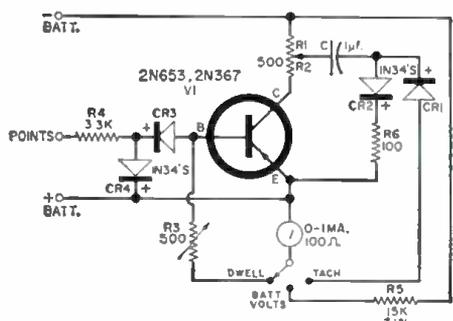

Fig. 5. Complete circuit diagram and parts values for the engine analyzer.
When the transistor conducts, the voltage at the junction of  $R_1$  and  $R_2$  drops (becomes less negative) and  $C$  discharges through  $V_1$ ,  $R_3$ ,  $R_6$ , and  $CR_2$ . The diodes in the input base circuit of the transistor ( $CR_1$  and  $CR_2$  in Fig. 5) pass a negative-voltage pulse to the base but block a positive-voltage pulse. The diodes are used to protect the transistor from high-voltage input spikes. If a higher-back-voltage diode is available, it can be installed in place of the 1N34 for  $CR_2$ . Under these conditions,  $CR_1$  would not be needed.
The layout and construction of the unit are not critical. Fig. 5 is the complete schematic of the unit. Transistor  $V_1$  can be practically any audio or general-purpose  $p-n-p$  germanium transistor. A *Motorola* 2N653 and a *Texas Instruments* 2N367 were used in the units constructed by the authors. The components may be laid out on a phenolic
interfering signal. Often the original signal enters through the antenna and causes havoc in some other way. Traps for various conditions and circuit configurations are shown in Fig. 5.
Fig. 5. Wave traps for short-wave sets: a single (A) series trap and combination series-parallel traps (B) for unbalanced (left) and balanced (right) antenna feed.